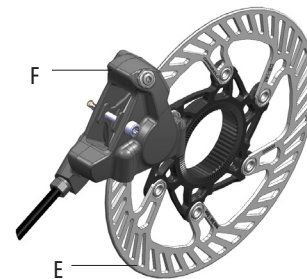

Fig.2
- disque (E - Fig.2)
- étrier (F - Fig.2)